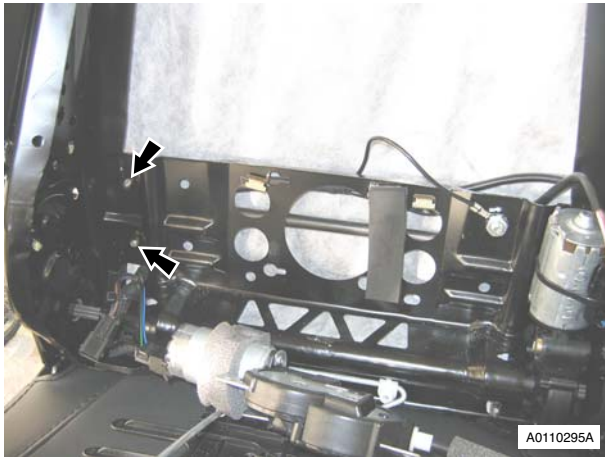

Figure 8
15. Drill out pop rivets from release rod support, and feed harness past rod (see Figure 8).